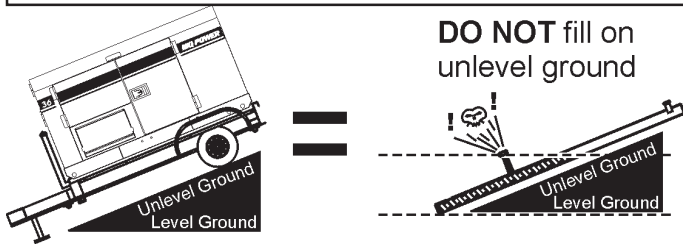

Figure 22. Only Fill on Level Ground
1. **Level Tanks** – Make sure fuel cells are level with the ground. Failure to do so will cause fuel to spill from the tank before reaching full capacity (Figure 22).